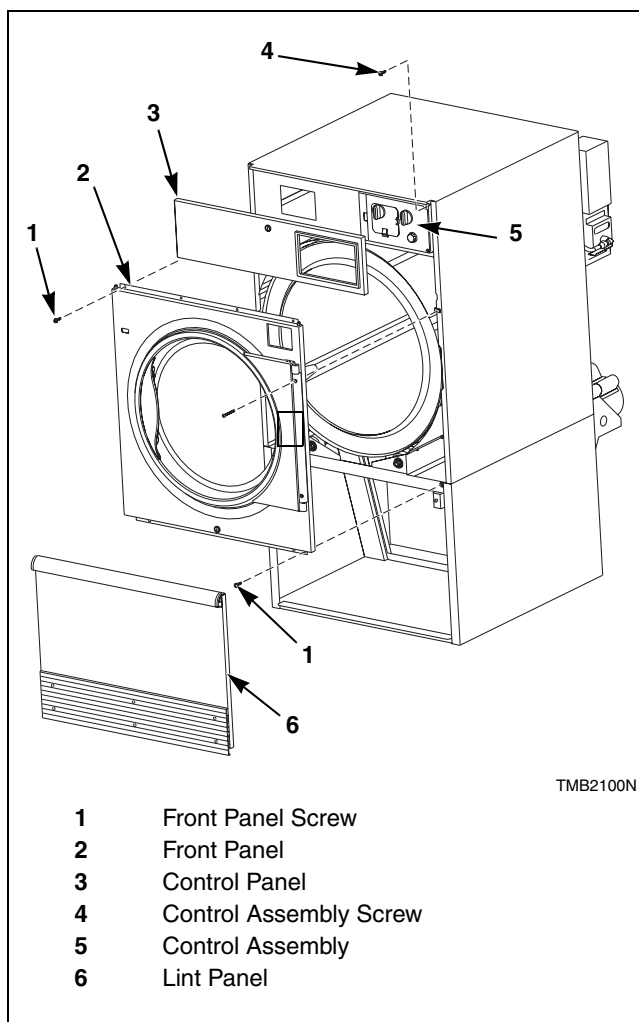
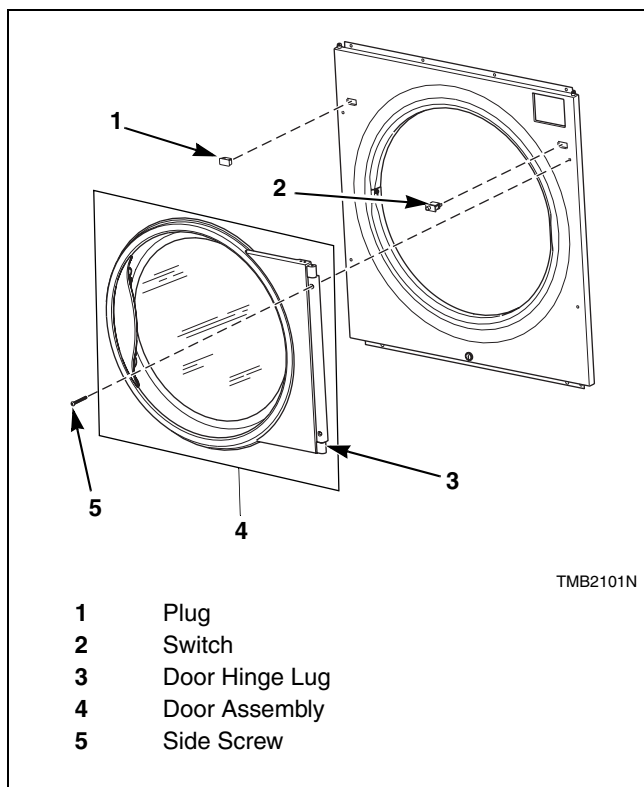

Figure 3
Figure 4
2. Unlock and remove control panel. Remove two control assembly screws from right side. Swing open control. Refer to *Figure 3*.
4. Remove four front panel screws. Refer to *Figure 3*. Keep door hinge cams in place on door hinge lug. Pull lug and door assembly off as one piece. Refer to *Figure 4*.
5. Remove remaining front panel screws, four on the top and four on the bottom. Refer to *Figure 3*. Disconnect door switch harness from switch. Take off front panel. Refer to *Figure 4*.
6. Exchange switch and plug locations. Depress tabs with an adjustable pliers to remove plug and switch from front panel. Reinstall switch, orienting button toward center of machine. Reinstall plug in switch's previous location. Refer to *Figure 4*.